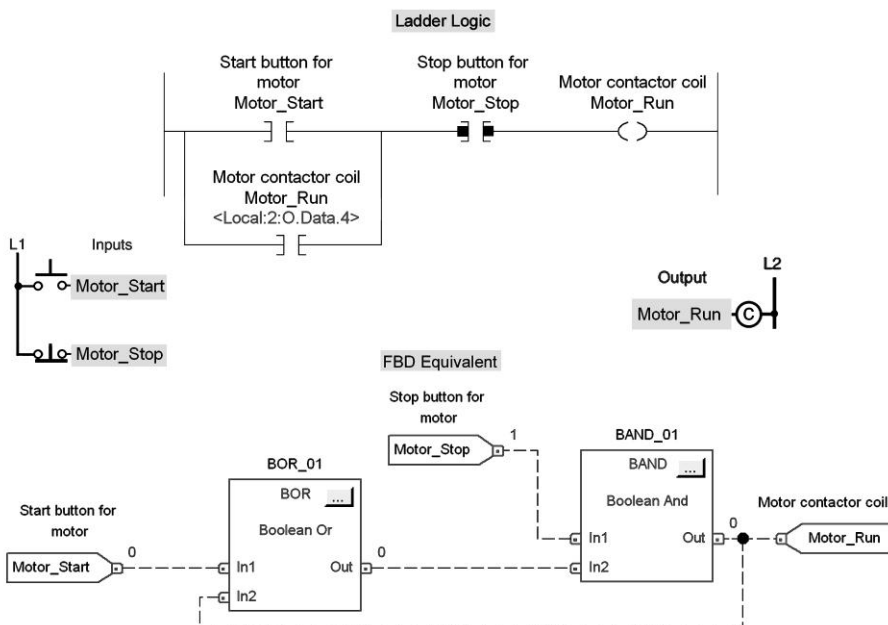

Figure 15-62 Motor start/stop program for assignment 4.
4) The programs of Figure 15-62 show the ladder logic and the FBD equivalent for motor start/stop control logic. The operation of the FBD program is explained in the text.